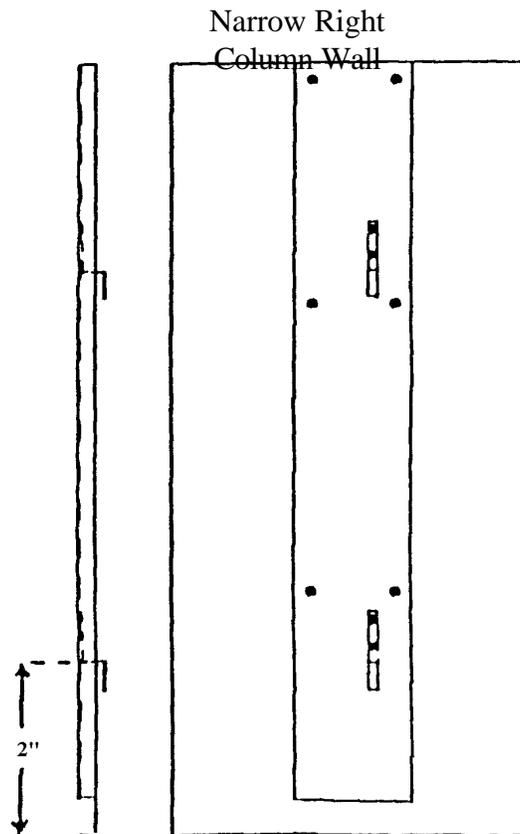

Figure 8
4. Take the narrow column wall kit and locate the "clips" which are welded to the back side of the wall. See figure 8 below.